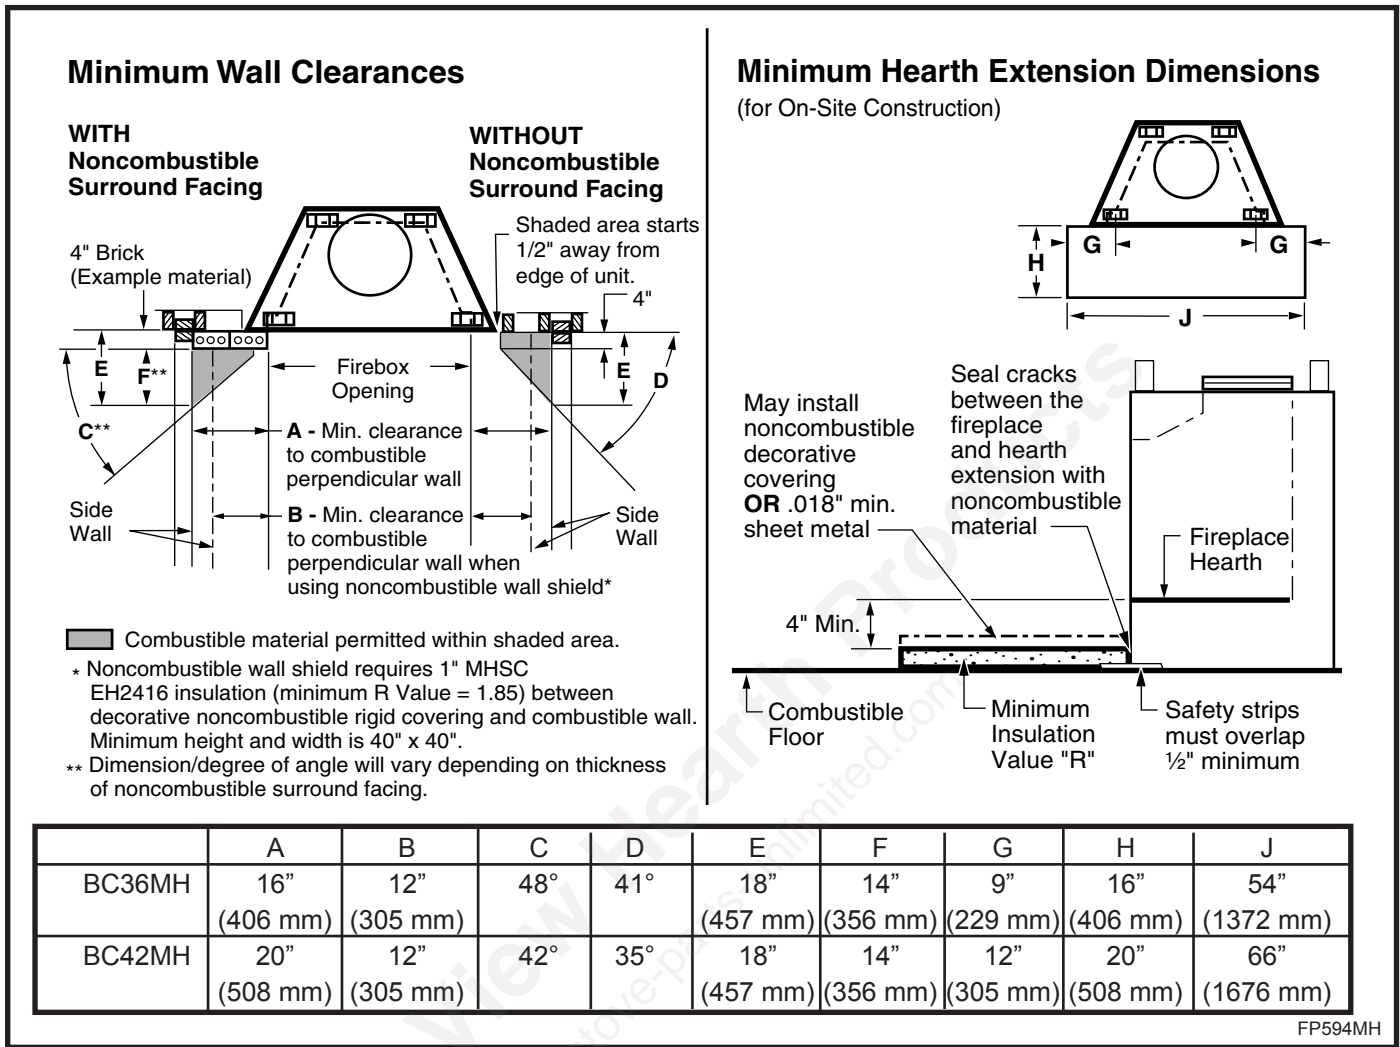

Fig. 22 Combustible side wall protection and hearth extension dimensions.
A hearth extension is required to protect a combustible floor in front of the fireplace. Refer to Figure 22 for minimum dimension and mounting detail.
The hearth extension described in Figure 22 must be a durable noncombustible material with a minimum (total) Rt value of 1.09; refer to Figure 23 for examples. The overall height (above a combustible floor), depth and width must be as indicated, with the extension centered to the fireplace opening.
The top of insulation must be covered with a noncombustible decorative covering or a piece of .018" minimum sheet metal, to protect hearth extension material. (Fig. 22)
Secure the hearth extension to the floor to prevent shifting, using trim molding or other similar means at three (3) outer edges. Seal crack between the fireplace hearth and hearth extension with a noncombustible material. (Fig. 22 and 24)